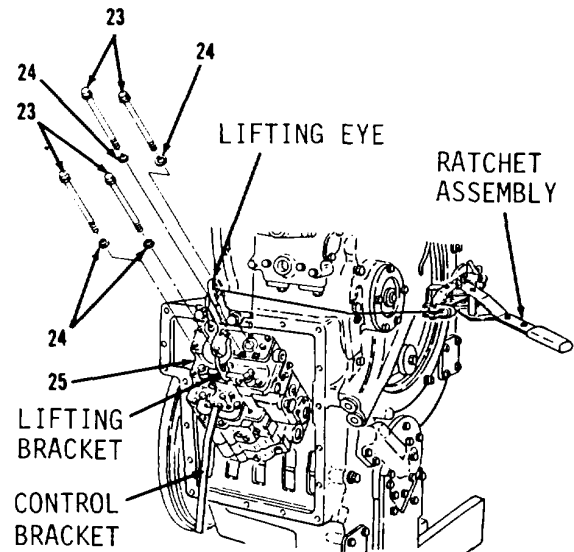

Figure 14-76.
10. Remove four bolts (23) and washers (24, Figure 14-76) from transmission case.
11. Remove hydraulic control group (25).
1. Attach lifting eye, control bracket, lifting bracket and ratchet assembly to transmission case and hydraulic control group (25).
2. Using tooling, position hydraulic control group (25, Figure 14-76) and attach to transmission case.
3. Install four washers (24) and bolts (23). Tighten four bolts (23) to 32 to 38 ft-lb torque.